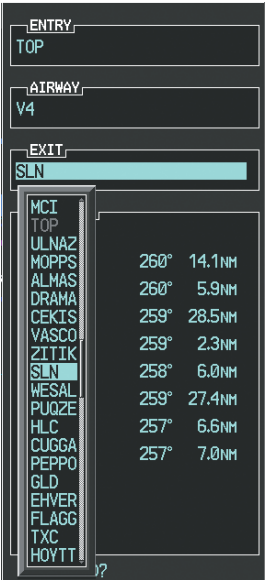

Figure 7-17 List of Available Exits for V4
h) Press the **ENT** Key. The list of available exits for V4 is now displayed as in Figure 7-17.
i) If necessary, turn either **FMS** Knob to select the desired exit. In this case Salina VOR (SLN) is selected as in Figure 7-17.